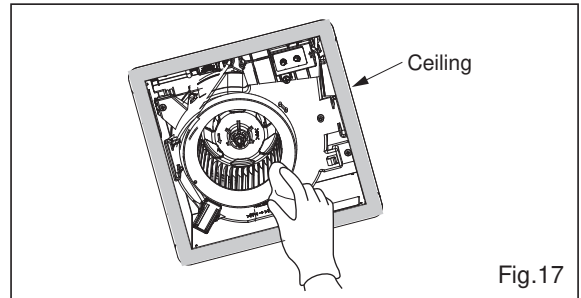

Fig.17
5. Using a cloth dampened with kitchen detergent, remove any dirt from fan body. Wipe dry with clean cloth. (Fig.17)